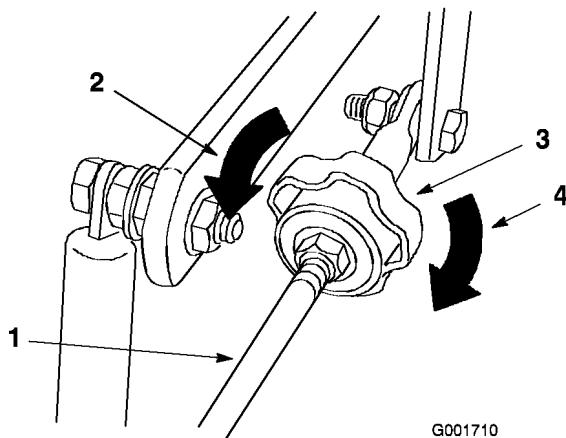

Figure 48
4. Adjust the tracking as follows (Figure 48):